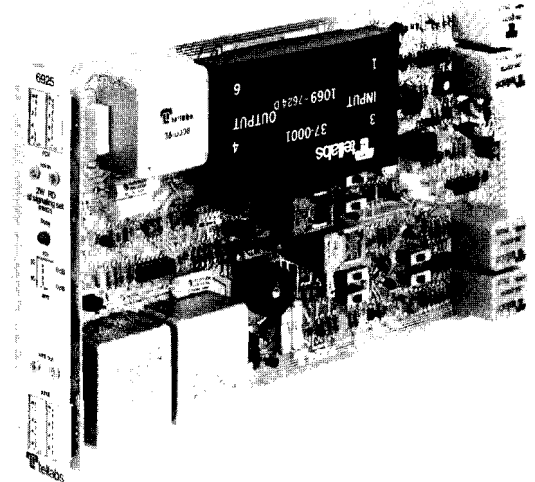

figure 1. 6925 2Wire Ringdown SF Signaling Set module
1.01 The Tellabs 6925 2Wire Ringdown SF Signaling Set module (figure 1) provides signaling and transmission interface between a 4wire transmission facility and a metallic 2wire ringdown signaling loop. Specifically, the module provides SF signaling over the 4wire facility, conversion between that SF signaling and the loop signaling used in automatic or manual ringdown applications, and extension of this ringdown signaling toward the 2wire termination. Conversion from 4wire to 2wire operation is accomplished via an integral toll-grade hybrid terminating set. Level coordination in the transmit and receive paths is provided by means of adjustable precision attenuators. Conventional 2600Hz SF tone is standard. Other frequencies are optionally available by special order.